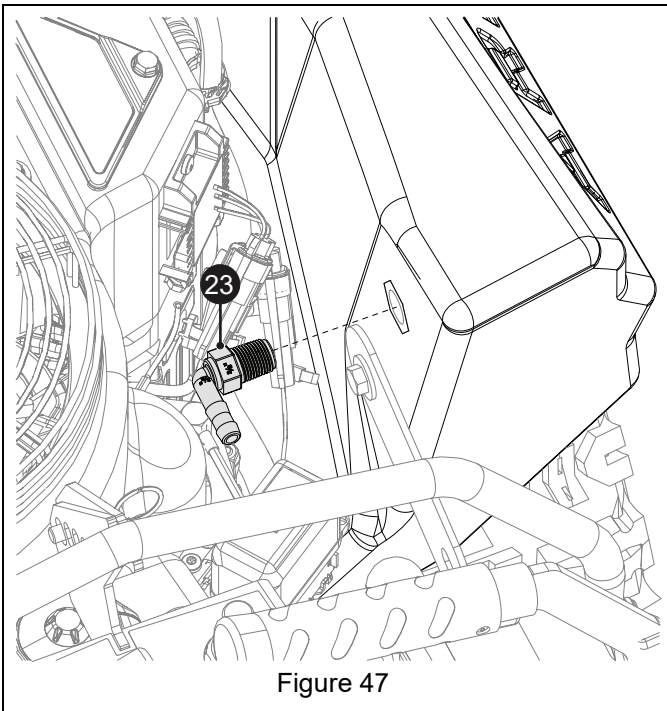

Figure 47
71. Wrap threads of one 3/8" x 3/8" 90-degree hose fitting (item 23) with teflon pipe tape and install in top right rear of front brine tank. See Figure 47.